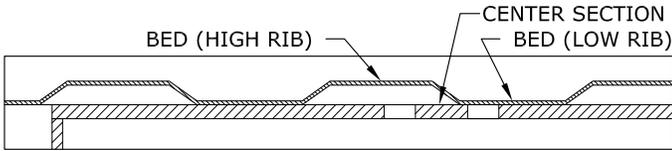

Figure F1: Cut away view of bed and center section
**WARNING:** This Turnoverball hitch is equipped with holes in the center section for mounting safety chain u-bolts. The hitch is designed so that the u-bolts will be in a low rib of the truck bed in order to reduce the amount of obstruction in the bed. The center section of the hitch may have more than one set of holes. One set of holes should match up with a low rib of the truck bed. Carefully examine the safety chain holes in the center section to determine which holes are under a low rib, see figure F1.